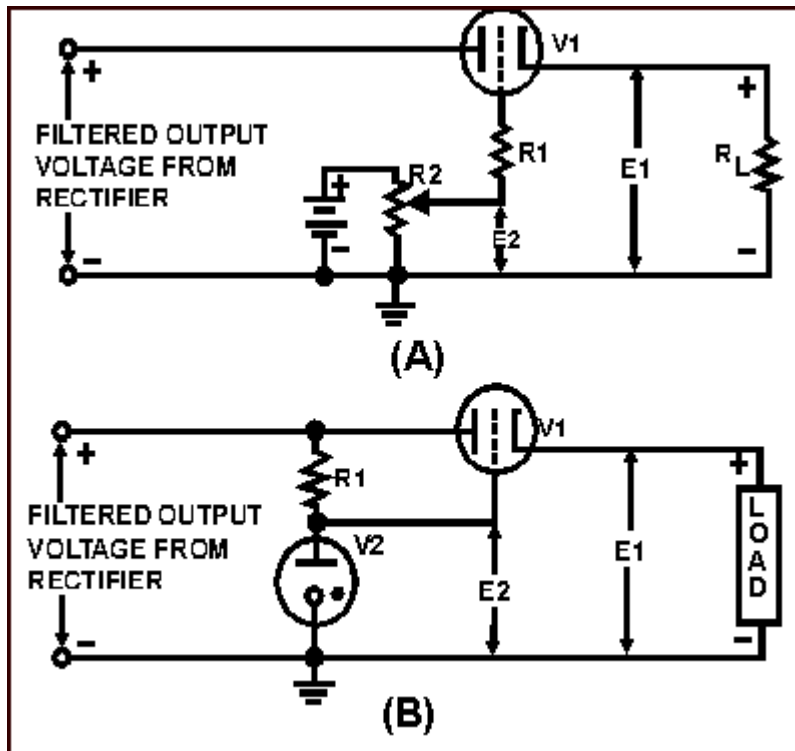

Figure 3-48.—Electron tube voltage regulator using a battery for the fixed bias
Refer to figure 3-48, view (A). The resistance of V1 is established initially by the bias on the tube. Assume that the voltage across the load is at the desired value. Then the cathode is positive with respect to ground by some voltage (E_1). The grid can be made positive relative to ground by a voltage (E_2) that is less than E_1 . The potentiometer R2 is adjusted until the bias (grid-to-cathode voltage), which is $E_2 - E_1$, is sufficient to allow V1 to pass a current equal to the desired load current. With this bias, the resistance of V1 is established at the proper value to reduce the rectifier output voltage to the desired load voltage.